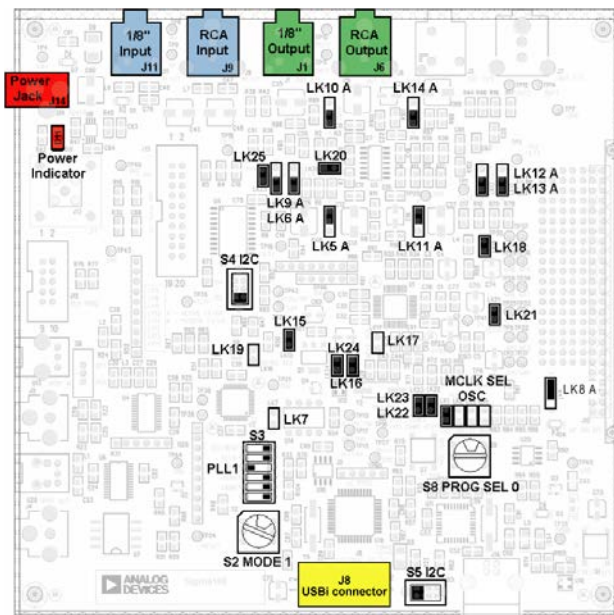

Figure 2. Evaluation Board Setup and Configuration
3. Plug the USBi into the control port on the evaluation board (marked yellow in Figure 2).
1. Connect the audio source to the IN 0/IN 1 jacks on the top of the board (marked blue in Figure 2), using 3.5 mm (1/8") cables.
2. Connect the OUT 0/OUT 1 jacks on the top of the board (marked green in Figure 2) to your speakers or headphones.
To configure the board for stereo analog input and output, make sure the switches and jumpers are set as indicated in Figure 2.
9. Click **Grow Algorithm > 1. 2 Channel – Double Precision > 4**. This creates a five-band equalizer (EQ). Each band's general filter settings can be modified by clicking the blue boxes on the cell.
12. For each of the outputs, select a DAC output by clicking the pull-down box. **DAC0** and **DAC1** are left and right outputs, 0 and 1, from the ADAU1401A (output on J1 as marked in green in Figure 2), respectively. **DAC2** and **DAC3** are left and right channel, respectively for the second stereo line output (J3 on the board).